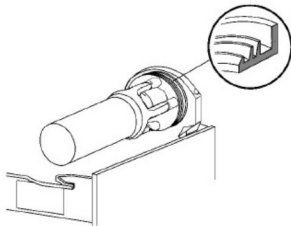

figure 8
- 4, Fit bowl gasket around its seat (fig.8)